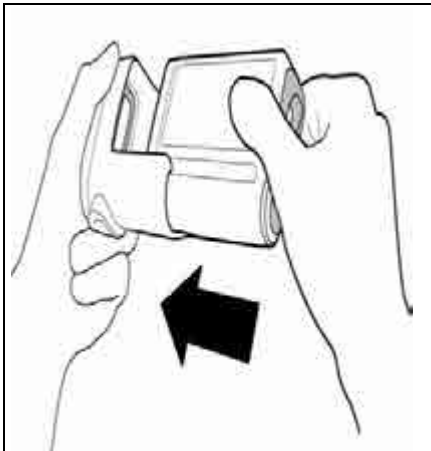

FIGURE 10-8 Inserting Telepack into SpO₂ Module
4. Align the two devices (shown in FIGURE 10-8) and then slide the SpO₂ Module into the Telepack. First, the connectors are mated; Continue pushing the devices together firmly until a loud audible “click” is heard as the mechanical latch is engaged.